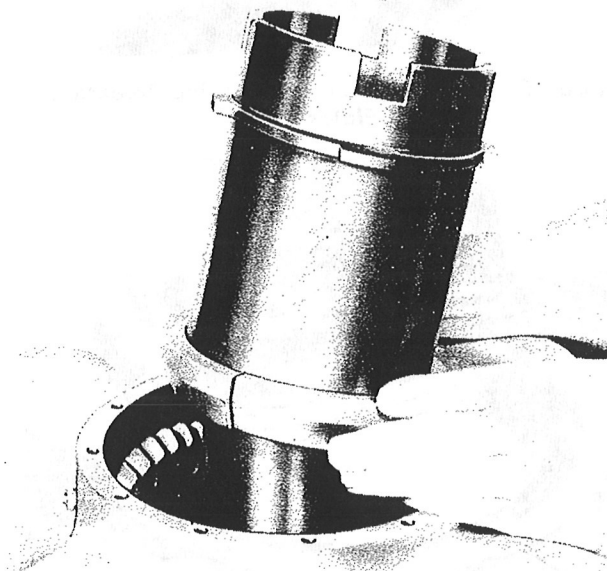

Figure 83—Removing Shaft Nut and Front Cone
(2) Remove the front cone snap ring.
(3) Withdraw the propeller shaft nut, using caution not to drop or damage the cone halves. (See figure 83.)
(4) Remove and disassemble the blades as follows: